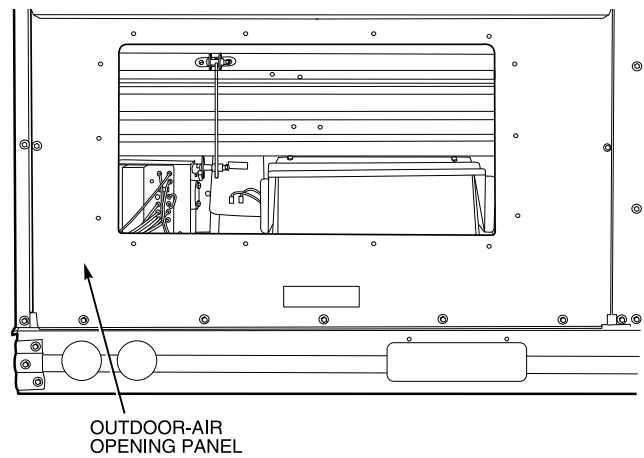

Fig. 24 — Panels Reinstalled on Unit
9. Replace outdoor-air opening panel using screws from Step 2. Replace filter access panel. Ensure the filter access panel slides along the tracks and is securely engaged. See Fig. 24.